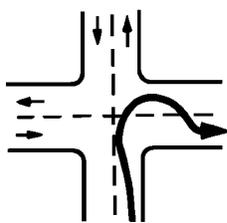

Figure 2-11:
- If you are driving a truck or bus that cannot make the right turn without swinging into another lane, turn wide as you **complete** the turn, as shown in Figure 2-11. Keep the rear of your vehicle close to the curb. This will stop other drivers from passing you on the right.